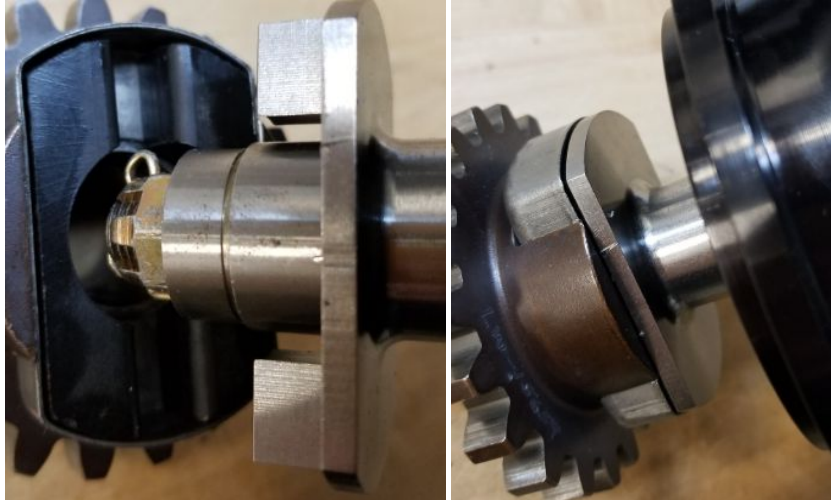

Figure 29: MTH Installation into magneto drive gear/cushions
- h. Install the MTH into the proper magneto hole and connect correctly with the magneto drive gear retainer and cushions. Electroair recommends using new magneto drive cushions. See Figure 29.